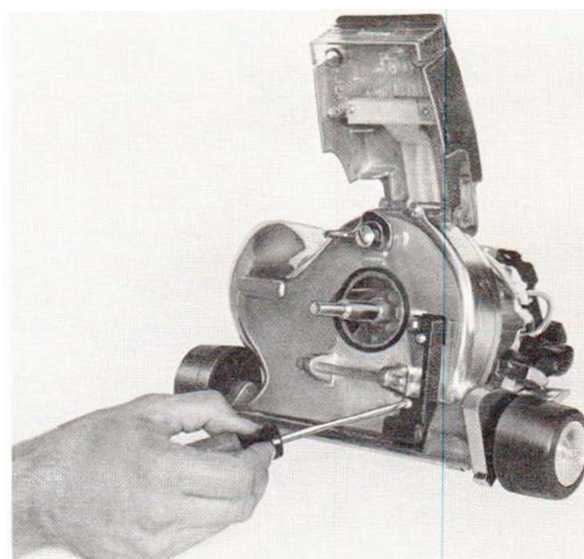

Figure 1-7. Removing lever cover from fan housing
(1) Remove screws (61), and lever cover (60) from the face of fan housing (67), in order to pull lever (59) from the selector switch linkage arm which projects through the fan housing. See figure 1-7.